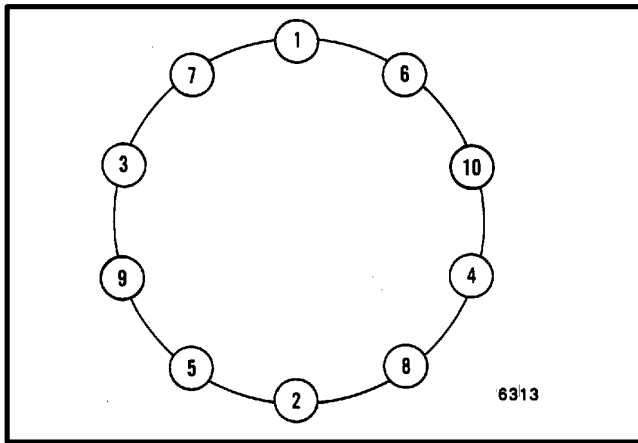

FIGURE 9. TIGHTENING SEQUENCE
9. Install the tapered thimbles, the washers and the nuts. Tighten the nuts evenly to 122 N.m (90 lbf ft) in the sequence shown in Figure 9. Tighten the nuts that hold the brake drum to the wheel to a torque of 160 N.m (120 lbf ft) for the S30–60E and S40–50F models. Tighten the nuts to a torque of 270 N.m (200 lbf ft) for the S60–120E models. Tighten the nuts in the sequence shown in Figure 9.